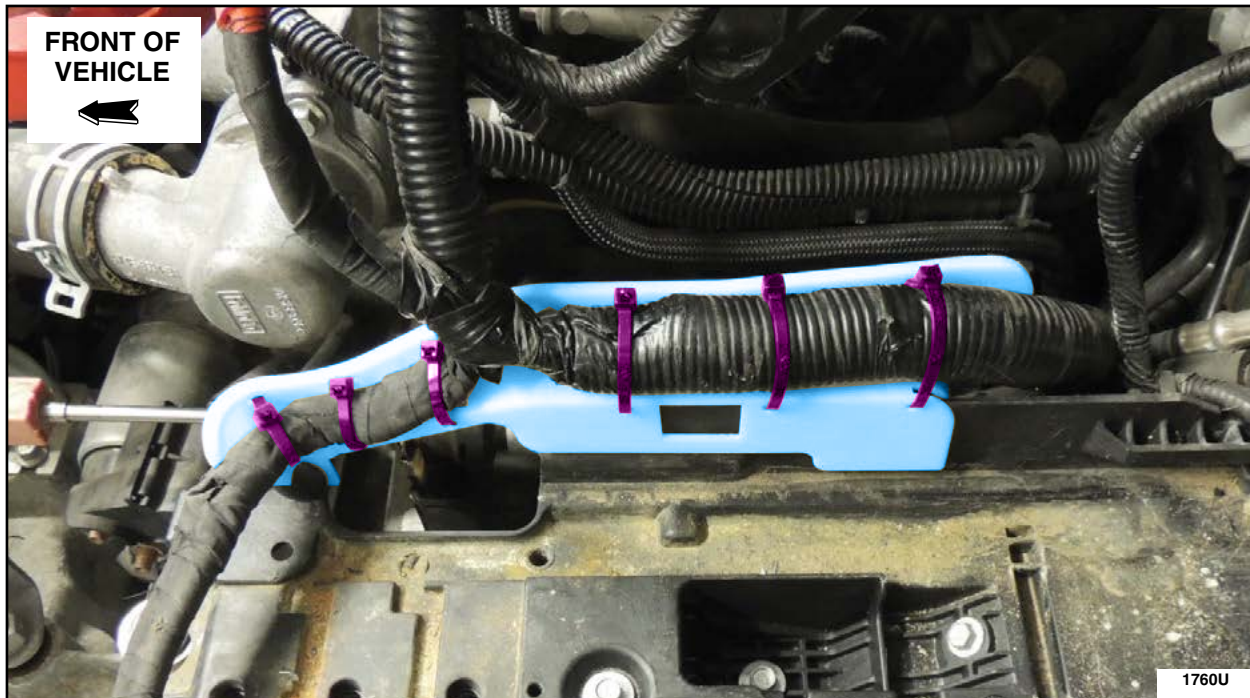

FIGURE 10
11. Figure 10 shows the shield installed with all of the tie straps in their correct locations.